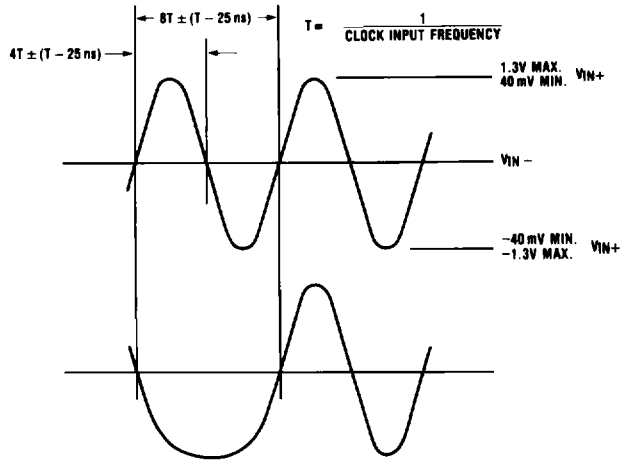

FIGURE 10. Data Waveform Constraints: Amplifier Inputs
**Note 9:** 28 MHz clock frequency corresponds to 3.75% jitter when referenced to Figure 10.